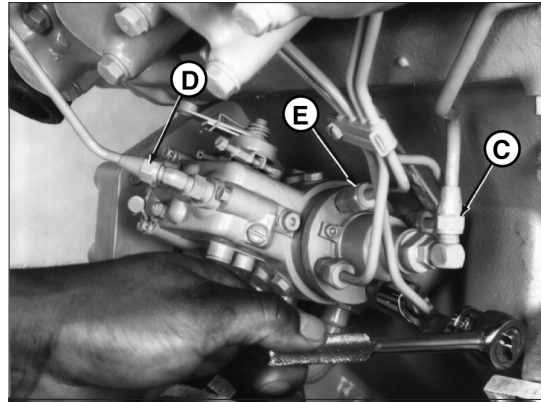
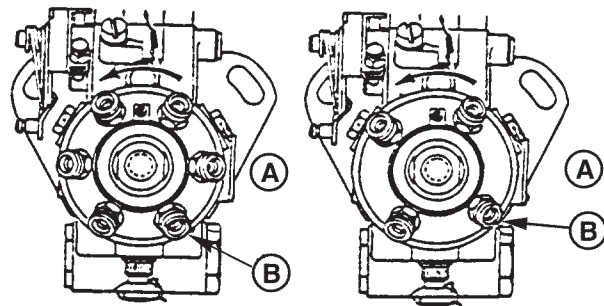

Figure 23 Reproduced by permission of Deere & Company, c.2004. Deere & Company, All rights reserved.
Figure 24 Reproduced by permission of Deere & Company, c.2004. Deere & Company, All rights reserved.
11. Connect injection pump pressure lines (Figure 23-E). Beginning with outlet connection to #1 cylinder (Figure 24-B) and continue around the pump head in counter-clockwise direction, attaching lines in same order as engine firing (1-5-3-6-2-4 on 6-cylinder engines and 1-3-4-2 on 4-cylinder engines).
13. Connect fuel supply line (Figure 23-C) and fuel return line (Figure 23-D).